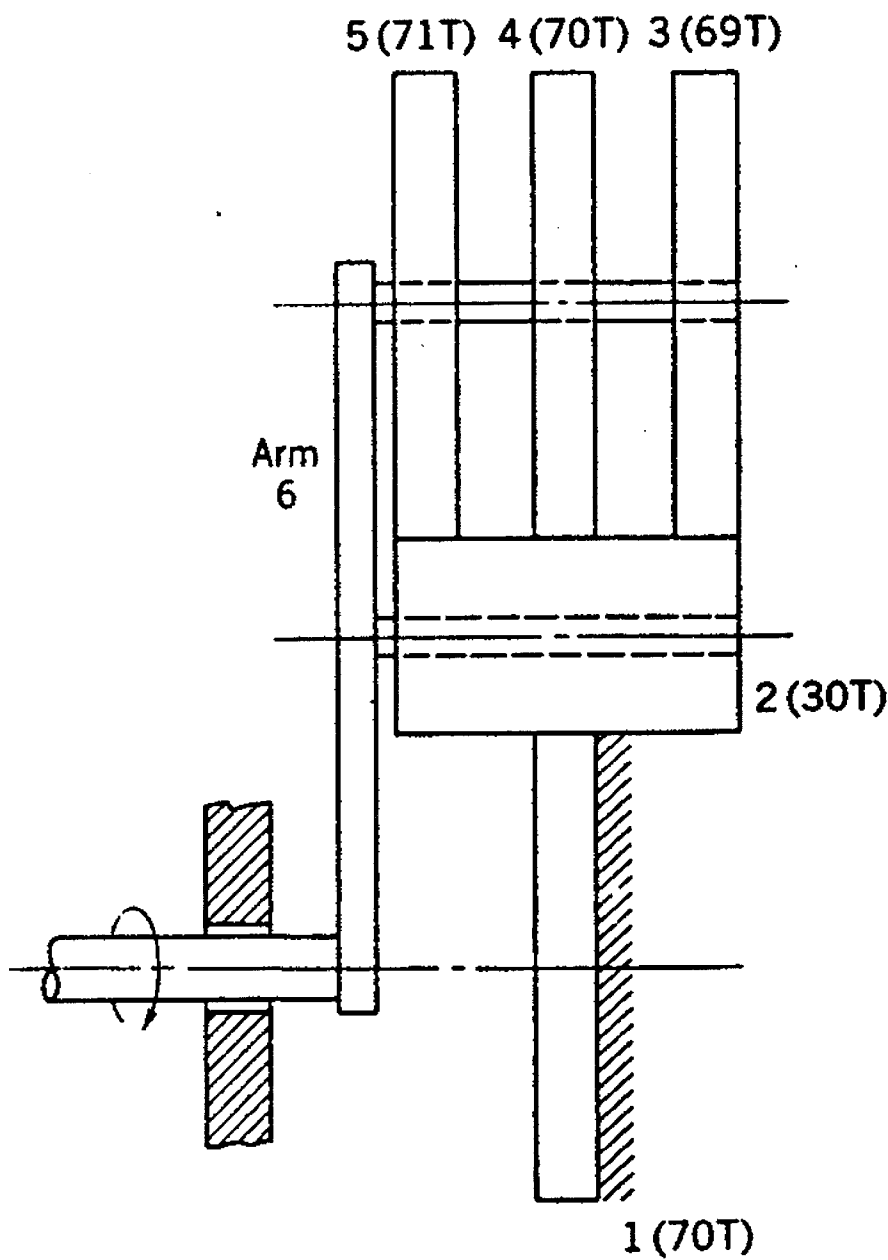

Figure 2
2. A mechanism is shown in Figure 2. For one revolution of the arm in the direction shown, find the number of revolutions of gears 3, 4 and 5 and their directions of rotation. The gears are non-standard. The number of teeth on each gear is indicated in brackets.